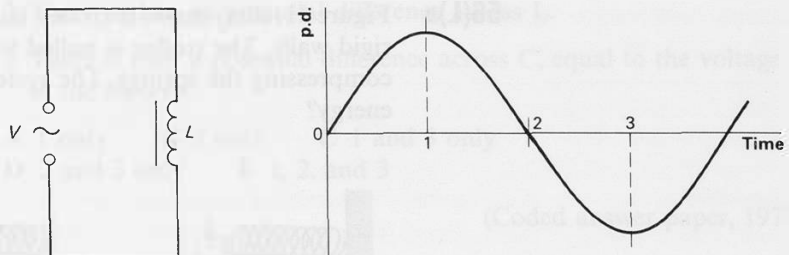

Figure H106
- 54(R)** An alternating voltage, V , varying with time sinusoidally as shown in figure H106, is applied across an inductor, which has negligible resistance.